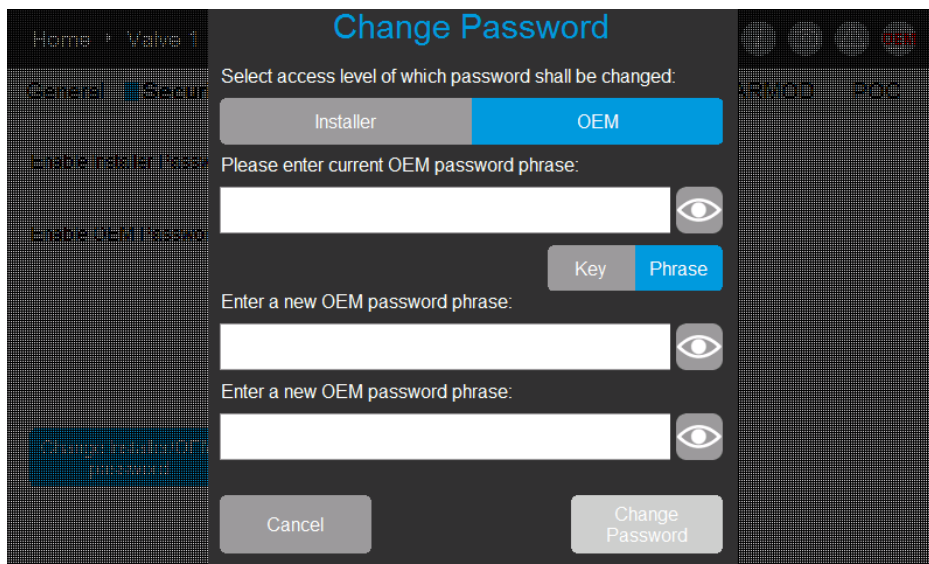

Fig. 71: Change Installer/OEM password dialog box.
The OEM and Installer passwords can be set from a dialog box which opens when the user clicks on the Change Installer/OEM password button or the Change OEM Reset password button. Refer to Fig. 71.
1. Select 'OEM' in the Change Installer/OEM password dialog box. Refer to Fig. 71.
2. Select Change Installer/OEM password button. Refer to Fig. 71. This will open the Change Password dialog box.